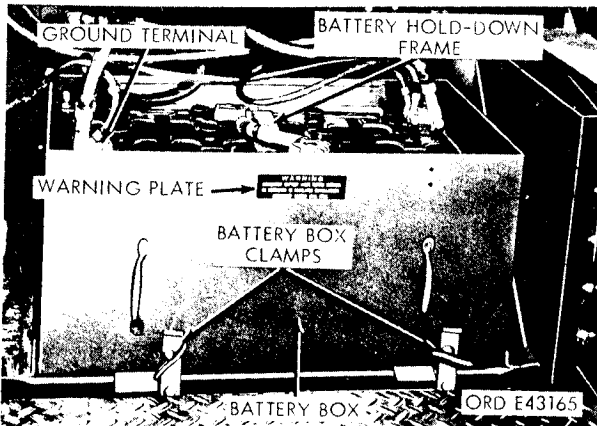

Figure 2-153. Battery installation.
- (1) Open the battery compartment door.
- (2) Loosen the wingnuts on both battery box clamps (fig. 2-153), and unhook the clamps from the box.
(3) Pull the battery box assembly out onto the step, and disconnect the cable from the negative (—) terminal post to ground (fig. 2-153).
(4) Disconnect all cables at the positive (+) and negative terminal posts on both batteries.
(5) Remove the battery holddown frame. Lift both batteries out of the box (fig. 2-153).
(1) Position the batteries in the box with the positive (+) posts toward the front of the vehicle, and secure the batteries with the holddown frame (fig. 2-153).
(2) Connect interconnecting cable from the negative (—) post of the front battery to the positive (+) post of the rear battery.
(3) Connect the batter-to-solenoid cable to the positive (+) post of the front battery.
(4) Connect the ground cable from the frame to the negative (—) post of the rear battery.
(5) Pack GAA grease around all terminal post connections.
(6) Slide the box assembly into the battery compartment, tighten the clamps with two wing nuts, and close the compartment door (fig. 2-153).